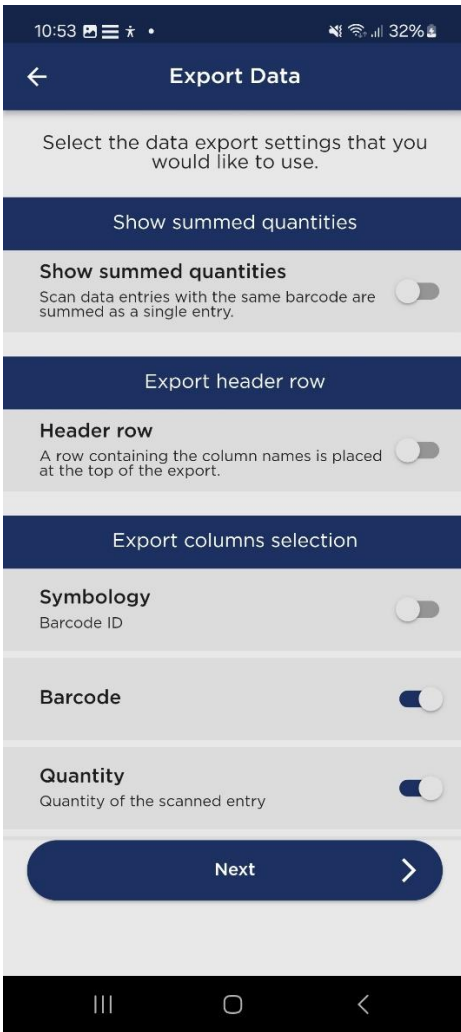
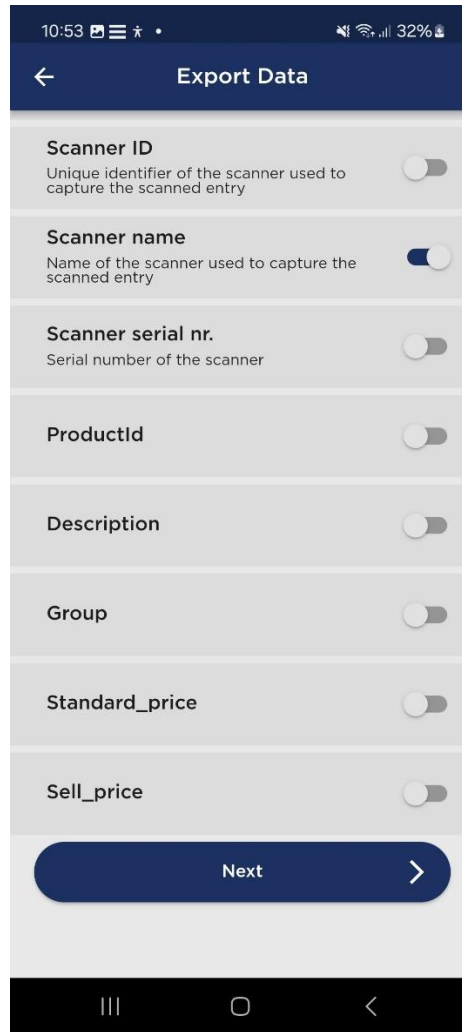

Figure 8-13: The *Export Data* page where you can configure various export data settings.
Figure 8-14: *Export Data* settings page scrolled to the bottom to display the available columns, including imported metadata columns.
- In this step, you can customize various settings for the export data on the Export Data page (see Figure 8-13 and Figure 8-14). The following configurations are possible: